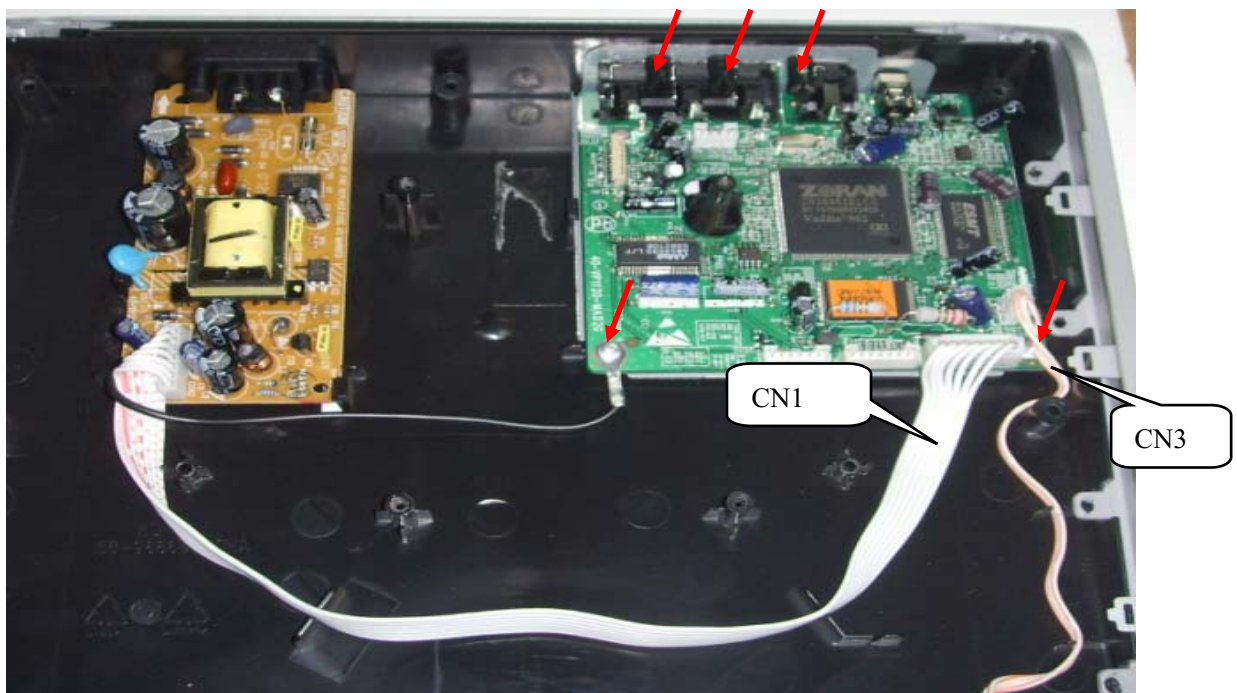

Figure 6
**Step4:** Dismantling main board: disconnect the 2 connectors aiming in the figure and 5 screws, then can remove the main board. (Figure6)